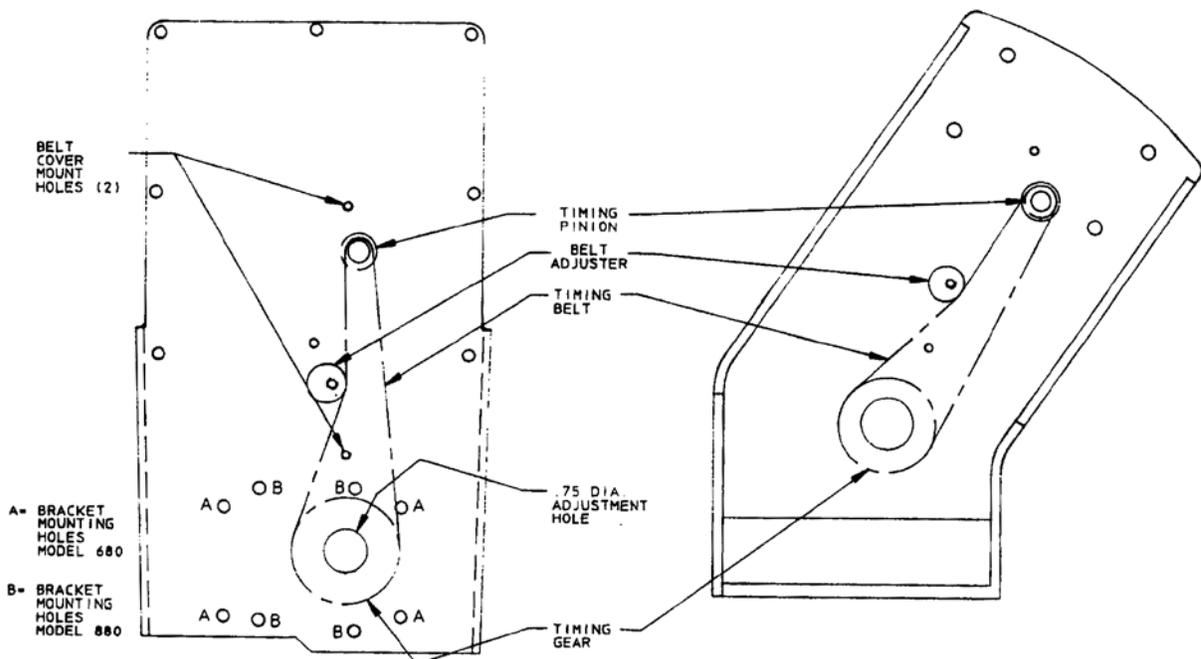

FIGURE 8
8. Locate template provided over shaft extension and worm shaft. Mark 4 mounting hole centers. (Note: There are eight holes in template. Only use 4 holes indicating in Fig. 8 for model pump being converted)
12. Position timing belt over gear, pinion, and adjuster as shown in Fig. 8.